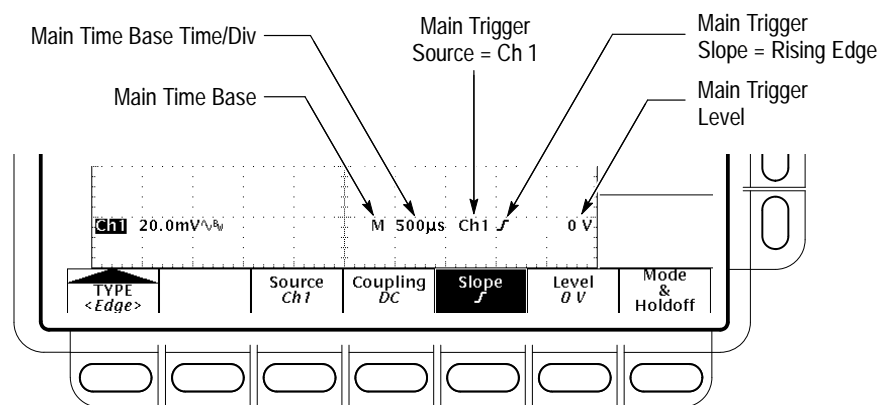

Figure 3–36: Edge Trigger Readouts
**To Check Edge Trigger Status** To quickly check if edge triggers are selected, check the Trigger readout. When edge triggers are selected, the trigger readout displays the trigger source, as well as the trigger slope and level. (See Figure 3–36.)